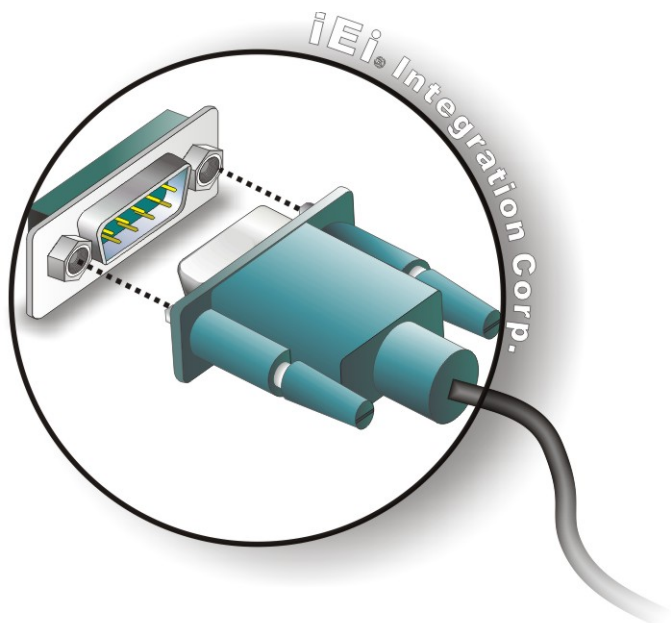

Figure 4-20: D-sub 9 Serial Port Connector
Step 2: Insert the serial connector. Insert the D-sub 9 connector of a serial device into the D-sub 9 connector on the bottom panel. See Figure 4-20.